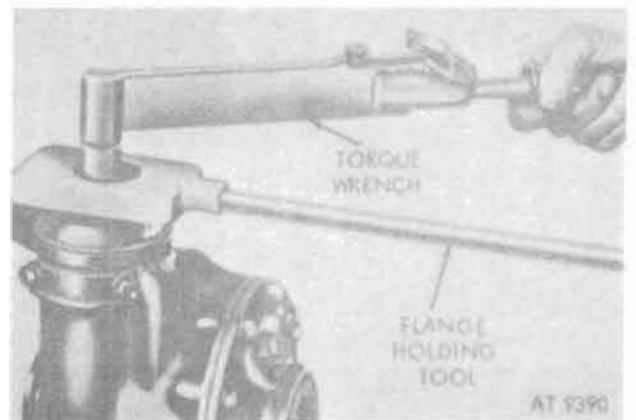

Figure 12-80. Torquing pinion flange nut.
l. Install pinion shaft flange retaining washers and nuts. Torque nuts to 60-70 lb.-ft. at pinion bearing end. Rotate bearing to keep from binding. Torque nut at opposite end to 35-45 lb.-ft. (fig. 12-80).